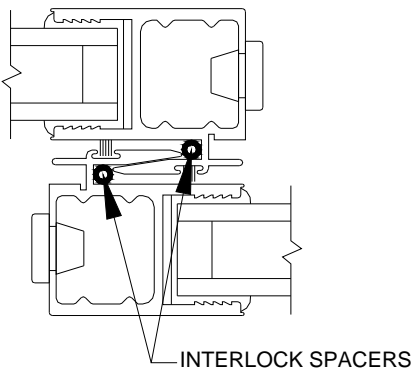

Figure 29:
4. Repeat steps 2-3 until all panels have been installed. Panels must overlap during installation to allow proper engagement of interlockers (Figure 29).
5. Verify that all panels with interlocker hooks engage properly. If lead stile panel is not engaging properly with the jamb or meeting stiles, remove interlock spacers as necessary (Figure 29).